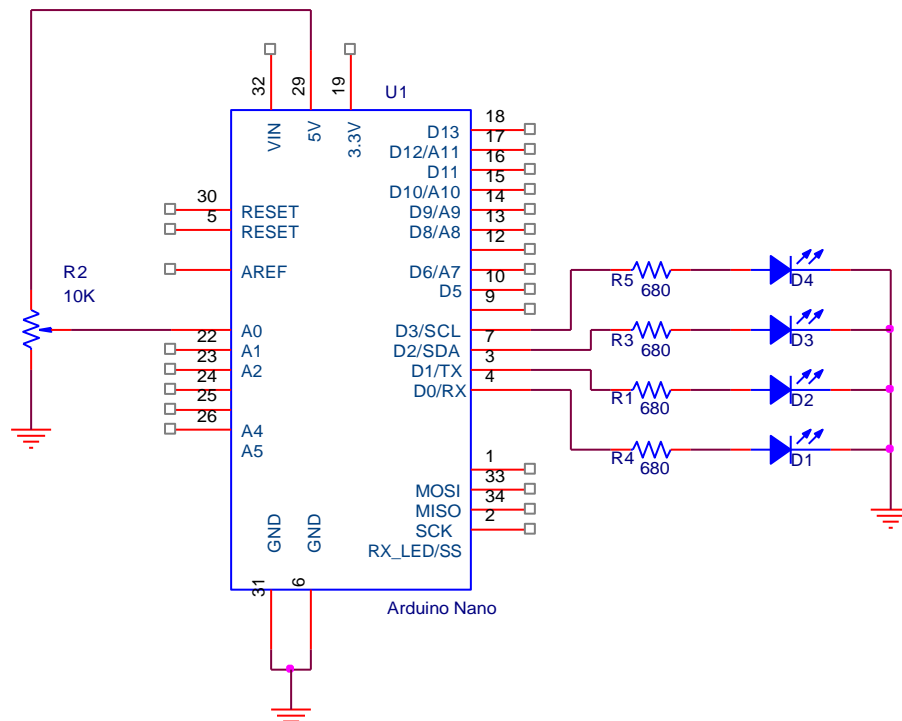
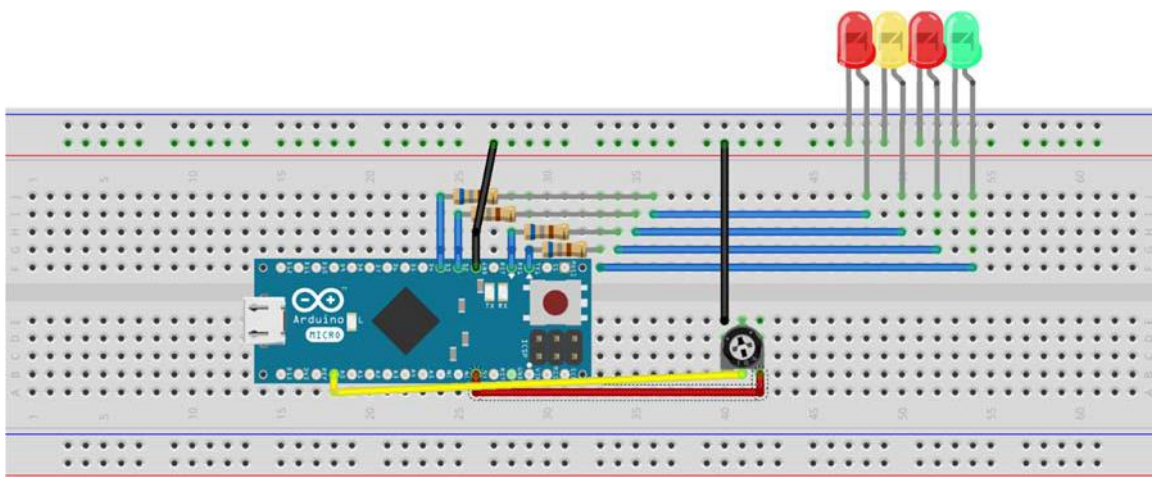

Figure 14. Schematic of Arduino Nano connected to 4 LED's and a potentiometer.
Figure 15. Breadboard of Arduino Nano connected to 4 LED's and a potentiometer.
1. Build the circuit shown in Figure 14. and Figure 15. The four LEDs are connected to Digital I/O pins 0, 1, 2, and 3.